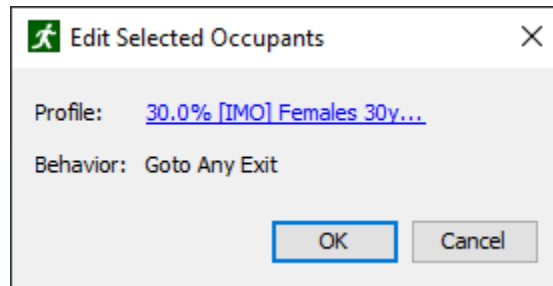

Figure 122. Edit Selected Occupants dialog
1. Select occupants, right-click one of the selected occupants either in the Navigation view or Model view, and then select **Properties** from the right-click menu. To edit a single occupant or group, double-click the occupant or group in the Navigation view. The Edit Selected Occupants dialog will appear as shown in Figure 122.